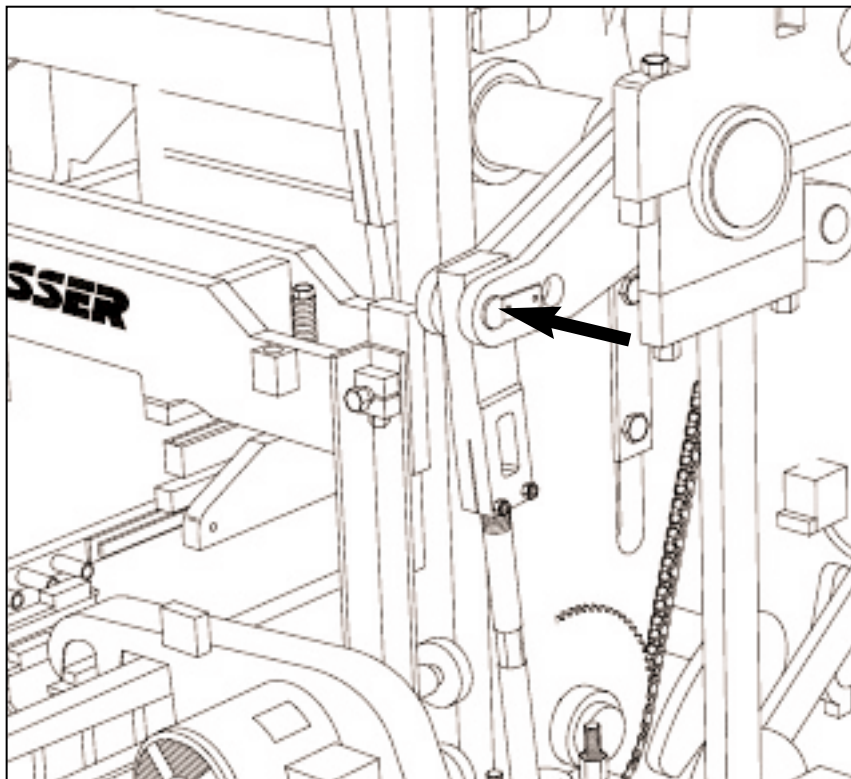

Figure 18.37 PALLET RECEIVER SHAFT POSITION.
18.3.1 The following items should be positioned as shown in figures 18.37 and 18.38:
a. Pallet receiver shaft - position pins in outside holes (long stroke) (see figure 18.37 below).